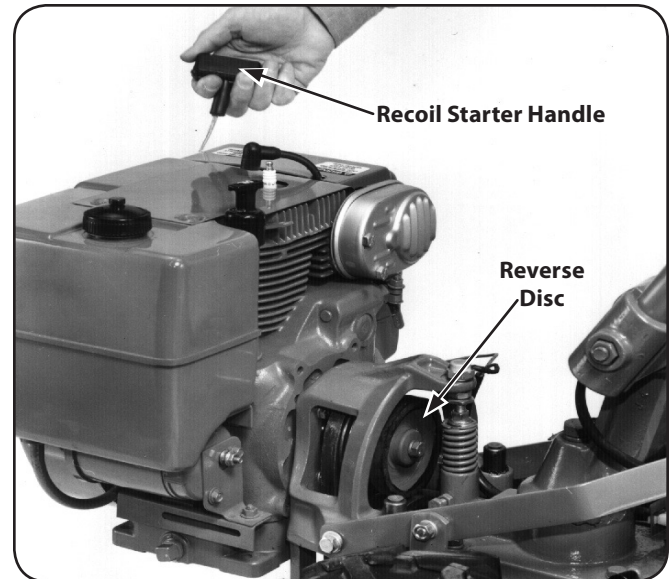

Figure 6-20
2. Place Wheels/Tines/PTO Drive Lever in NEUTRAL. Briefly pull out the engine recoil starter handle while watching the reverse disc. The disc should turn, but lower pulley should not. See Figure 6-20. If the reverse disc turns the lower pulley, or if it is located closer than $\frac{3}{16}$ " to the pulley, reverse adjustment bolt should be adjusted upward. Moving the adjustment bolt upward will also solve the problem of a tiller that goes into REVERSE on its own.